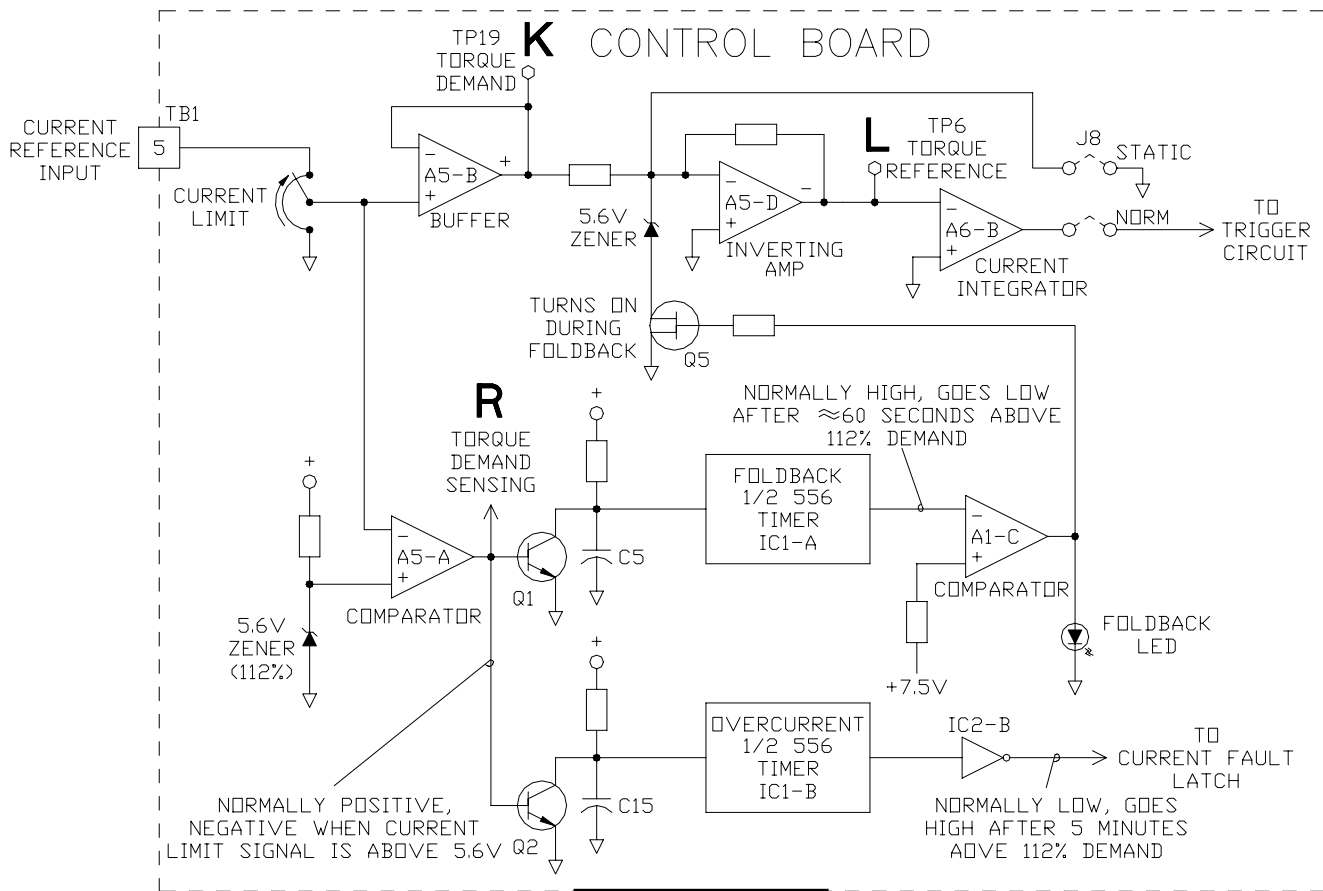

FIGURE 16
Refer to FIGURE 16. The current demand signal from the Current Limit pot goes to a demand level sensing circuit, A5-A, and to a buffer stage, A5-B. The buffer output can be measured at TP19 (K) and is connected to a 5.6 volt zener that can be switched into operation by transistor Q5 and comparator A1-C. The signal then is inverted by A5-D and can be monitored at TP6 (L) before being applied to the integrator, A6-B.
The STATIC CURRENT LIMIT feature is programmable with J8 on the CONTROL board. See FIGURE 16. This feature allows setting the level of current limiting statically or without actually supplying armature current to the motor. As detailed in previous sections, control of motor current is based on calibration to give a scaled 5.0 VDC current amplifier signal at 100% of the programmed current range. Selection STATIC C. L. with J8 will disable the current loop and trigger circuit. Then starting the control with the speed reference turned up will cause velocity integrator to saturate demanding maximum torque – which can be trimmed to the desired current limit level by monitoring TP19 (K).